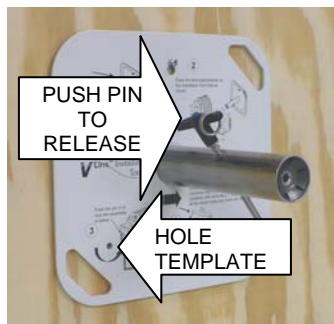

Fig. 2
2. - Temporarily mount the V-Linx Installation Tool utilizing the center top mounting tab key hole. This is designed for a #8 tapping pan head fastener. Use the tool template and mark the four permanent V-linx mounting holes location. (Refer to Figure 2)